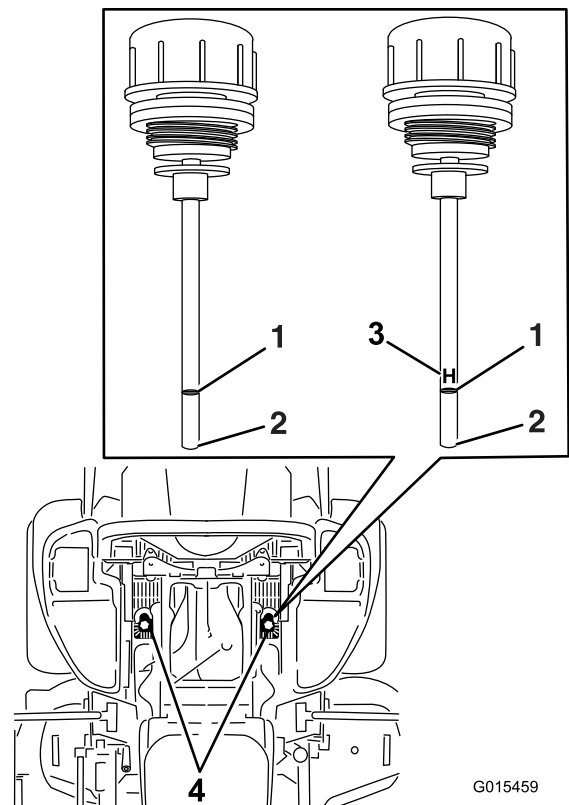

Figure 83
6. Clean the area around the dipsticks of the hydraulic system reservoirs (Figure 83).
7. Remove one dipstick from the hydraulic reservoir (Figure 83).
9. Remove the dipstick and look at the end (Figure 83).